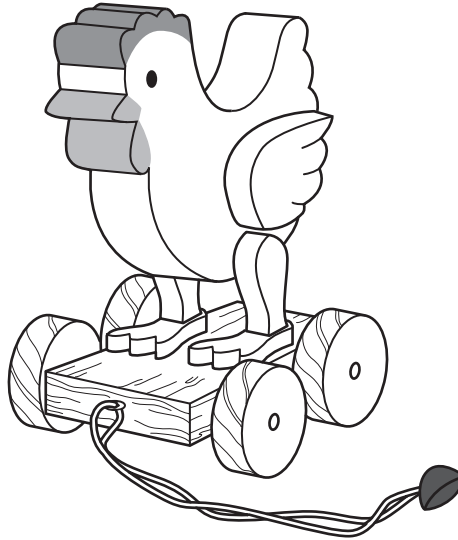

Fig. 2
- 17 Fig. 2 shows a pull-along toy for a young child.
- (d) To make the toy shown in Fig. 2 more appealing it needs to rock from side to side as it is pulled along.